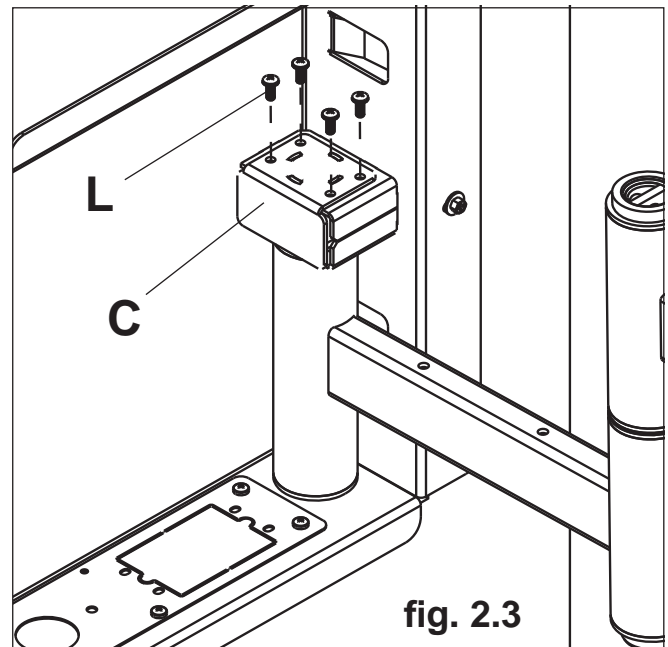

fig. 2.3
Secure arm axle to in-wall box using four M5 x 12mm phillips screws (L) as shown in figure 2.3.